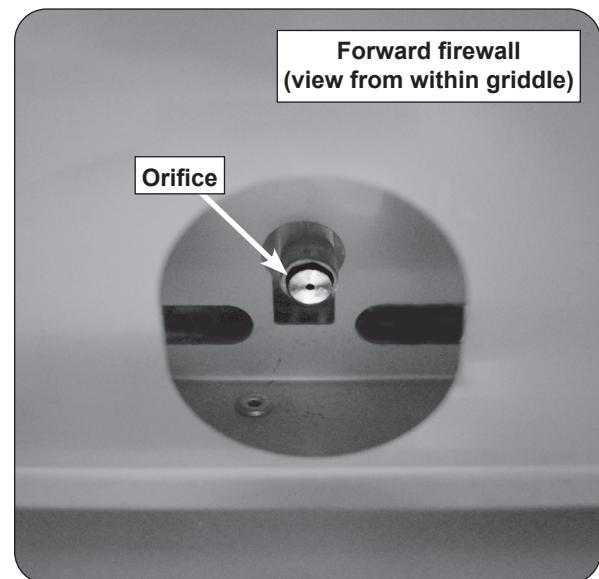

Fig. 44-1 Orifice conversion
3. Use a $3/8$ " hex nut driver to remove the exposed orifices (Fig. 44-1). Check orifices. If needed, replace them with the correct orifices for the new gas.